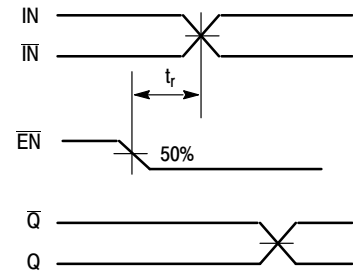

Figure 5. Release Time
7. The release time is the minimum time that EN must be deasserted prior to the next IN/ \bar{IN} transition to ensure an output response that meets the specified IN to Q propagation delay and output transition times (Figure 5).
- The release time is the minimum time that $\overline{\text{EN}}$ must be deasserted prior to the next $\text{IN}/\overline{\text{IN}}$ transition to ensure an output response that meets the specified IN to Q propagation delay and output transition times (Figure 5).